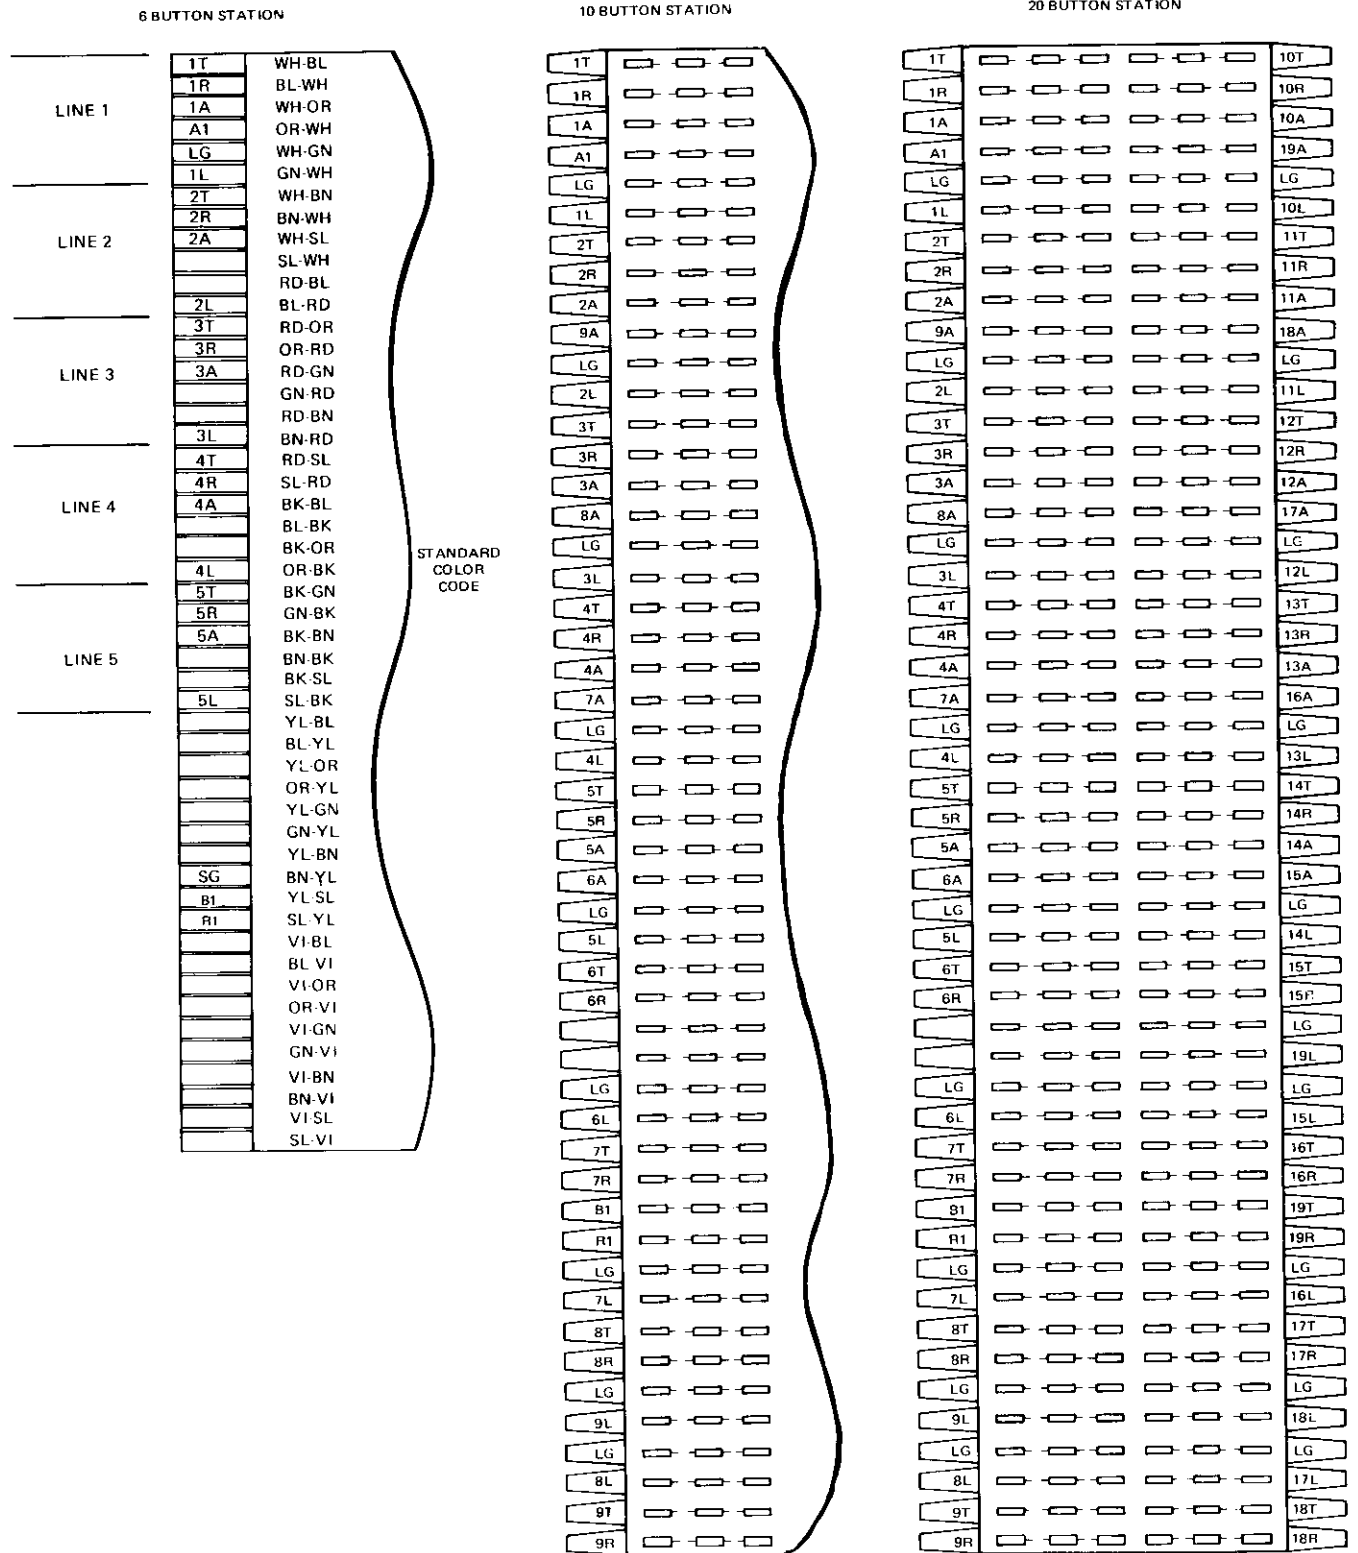

Figure 6: Typical Station Block Layouts
4.11 Connect the 25-pair station cable from each multibutton telephone to one side of a station connecting block. Punch each cable down following the standard color code order. Label each block with the station identification and the proper lead designations. Refer to the applicable Telephone Apparatus Practice or circuit label for lead designations. For reference, typical station block layouts for 6, 10, and 20 button telephones are shown in Figure 6.